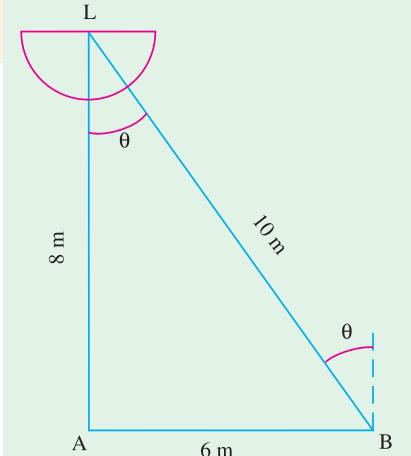

Fig. 49.9
**Solution.** Let the intensity of the lamp be  $I$  and the distance between A and B be  $x$  metres as shown in Fig. 49.9.